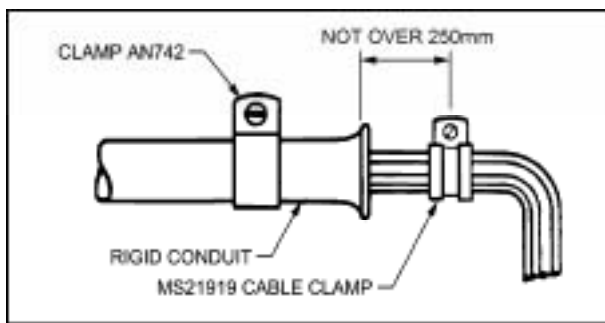

Figure 4-29 Support for Wire at Conduit End
79. Use an MS21919 cable clamp to support wires at each end of conduit. Place the cable clamp in a direct line with the conduit end to prevent chafing of wires at end of conduit. Place cable clamp as close to end of conduit as practicable, but never more than 25cm away. (See Figure 4-29.)